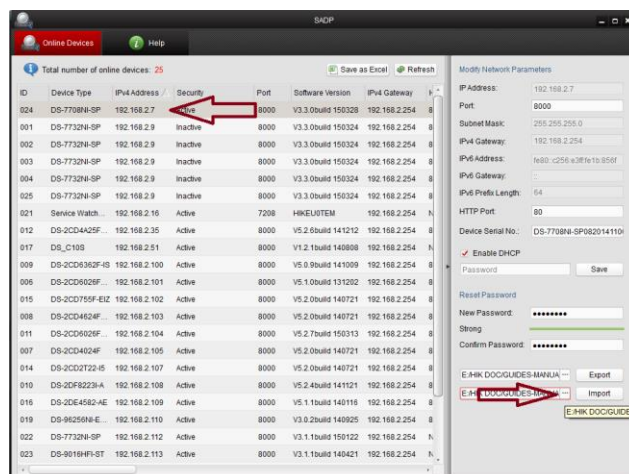

Figure 105 Select device again and click [Browse] to locate the path where you saved the "Encrypt.xml" file
1. In the SADP Tool, highlight your device, click **[Browse]** (...), and select the path where you saved the "Encrypt.xml" file (Figure 105).